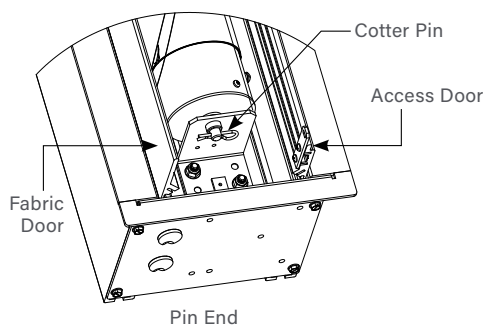

Figure 3
4. Lift the pin end (right end) of the roller into position and slide the bracket onto the roller pin and secure with the cotter pin. Tighten two nuts to secure the bracket. See figure 3.